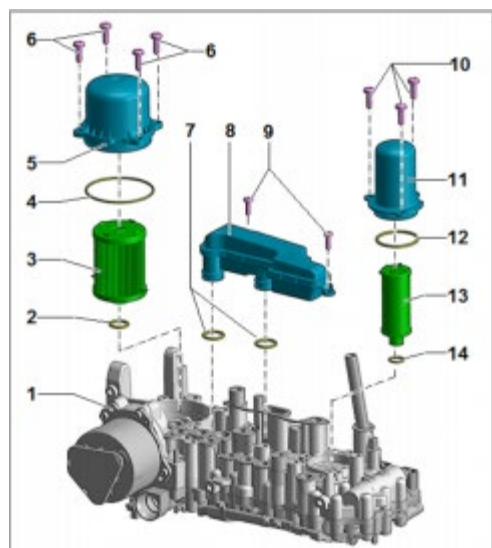
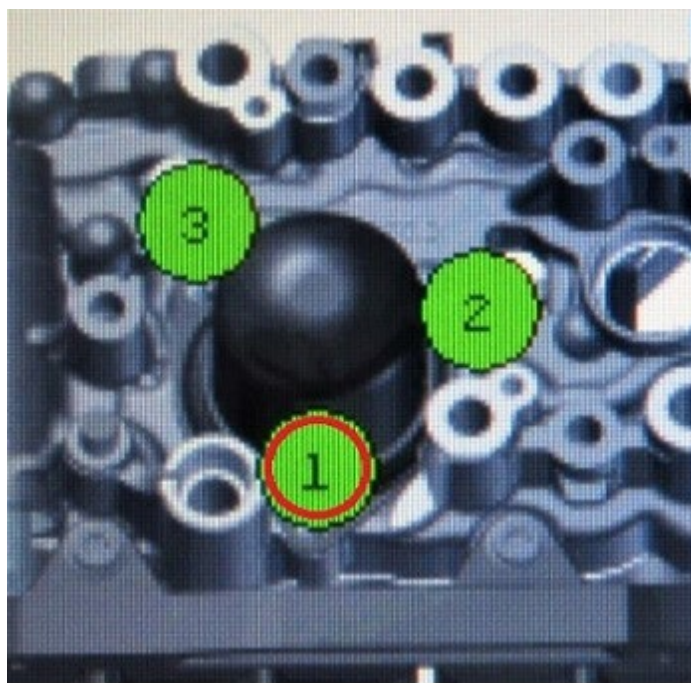

Figure 2. Mechatronics parts.
Figure 3. Bolt locations.
3. After removing the Mechatronics unit remove the intake filter (Figure 2, positions 8 and 9) to access one of the filter bolts and perform a visual inspection of the installation of the bolts for pressure filter 2 (Figure 2, position 10 and 11). This is the smaller of the 2 canister filters installed to the mechatronics unit with 3 bolts attaching the filter to the unit (Figure 3).